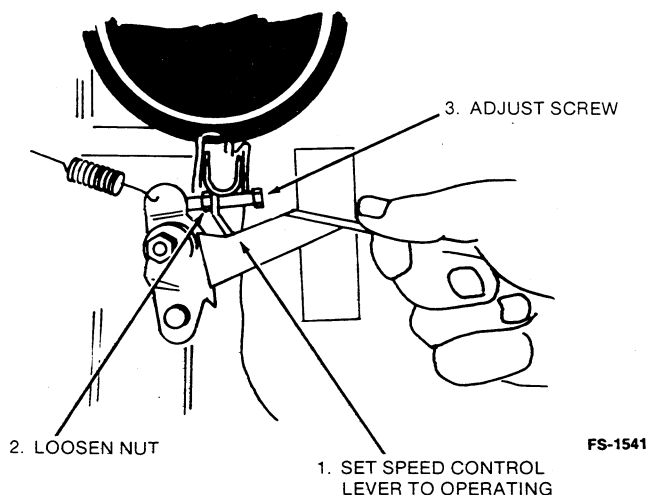

FIGURE 16. MODEL K1000 SPEED ADJUSTMENT
2. Set the Speed Control Lever to OPERATING (Figure 16).